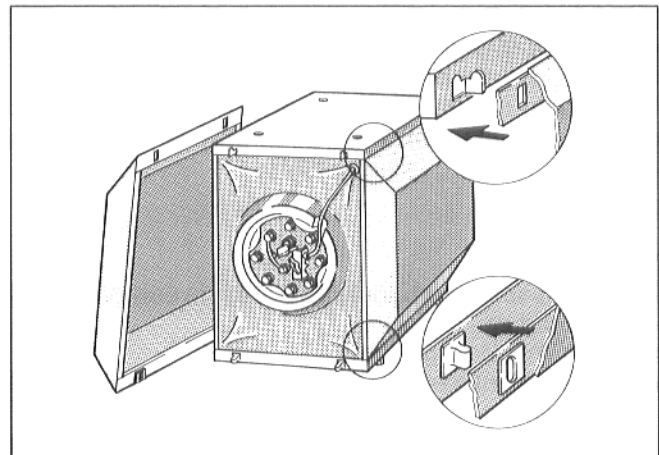

Fig. 15
If transported in an unpacked state, the front panel and the side panels can be removed to avoid damage to them (Fig. 15).
- Pull the front panel or side panel of the storage tank and lift up out of the hooks on the body of the tank (Fig. 15).